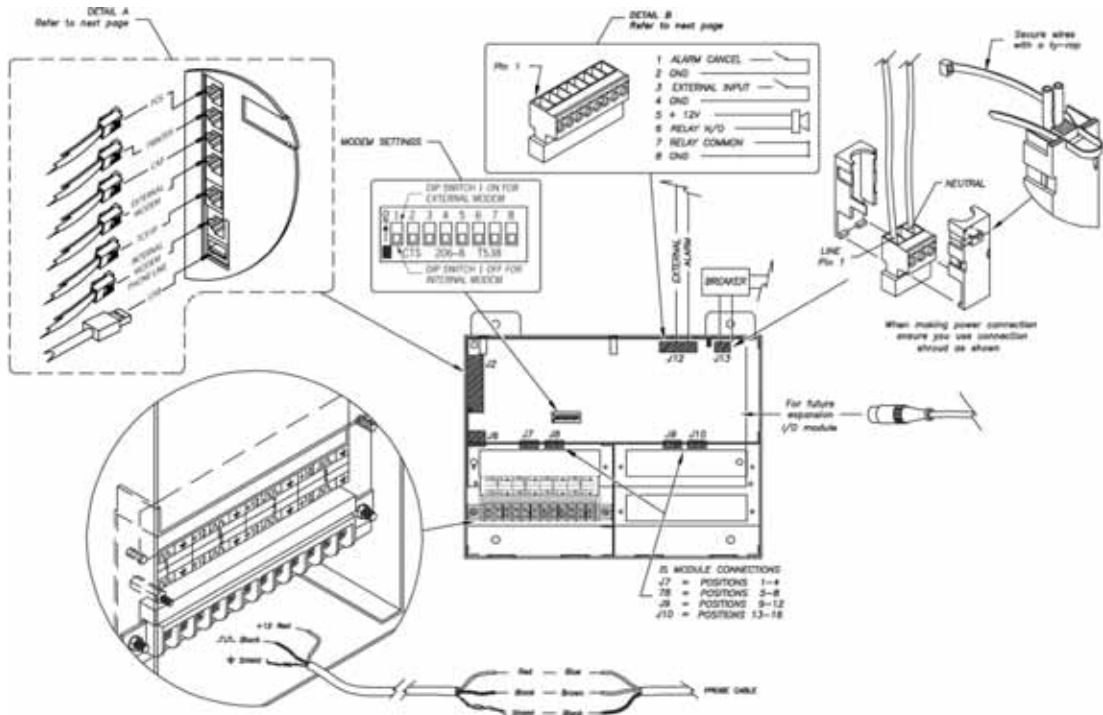

Figure 30: Connecting External Devices to the Controller
Figure 30 below shows how to connect all possible devices and accessories to your SiteSentinel 1 Controller. Not all applications use all connections shown in the drawing.
3. Attach 9-pin Dsub connector to the printer and the other end to the Controllers RJ-45 connector – see Figure 30 on page 87.